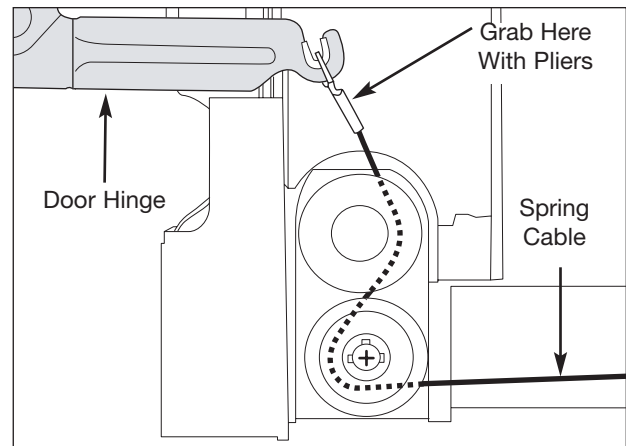

Figure 5-9. Hinge Spring Cable Removal
3. With a pliers remove the cable of the door spring from hinge assembly. (See Figure 5-9)